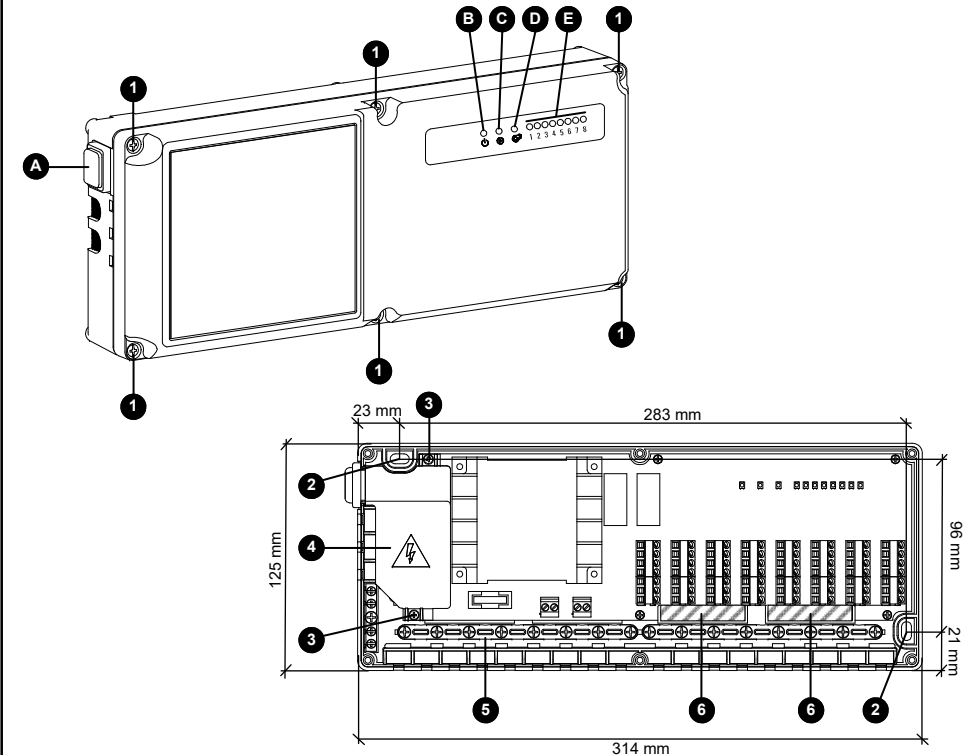

Fig. 1: Internal view and parts.
- Remove the 2 screws labelled as 3 in Fig. 1 then remove the plastic cover labelled as 4 in Fig. 1.
With the help of a screwdriver, remove the plastic knock-outs from the base, see item 6, Fig. 1. Cables can then be taken through the backplate to the terminal connections.
Green LED: power supply 'Ⓢ' (Ⓢ Fig. 1)
Red LED: pump output activation 'Ⓟ' (Ⓟ Fig. 1)
Red LED: boiler output activation 'Ⓠ' (Ⓠ Fig. 1)
Actuator outputs state LEDs '1..8' (Ⓡ Fig. 1)
ON / OFF illuminated switch (Ⓢ Fig. 1)
The illuminated switch at the lower left hand side of the wiring centre will isolate the whole of the wiring centre except the parts under the plastic cover, item Ⓢ, Fig. 1, to allow access to thermostats and actuators for testing and fault finding during installation. When the switch light is turned on the wiring centre is powered, when it is off the wiring centre is unpowered.
- Remove the 6 screws labelled as ❶ in Fig. 1 then remove the front plastic cover.
- Fix the device base to the wall by using the two screw holes labelled ❷ in Fig. 1.